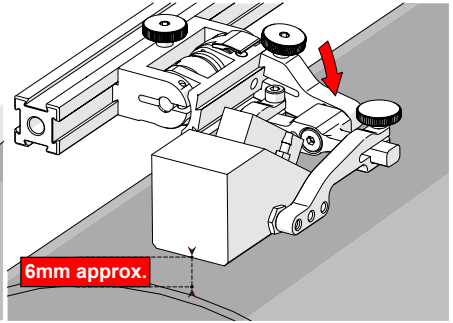

Fig. 204 - Lower to scanning surface
2. Push the probe holder yoke down toward inspection surface until the wedge is approximately 6 mm ($\frac{1}{4}$ in) above the inspection surface (Fig. 204).